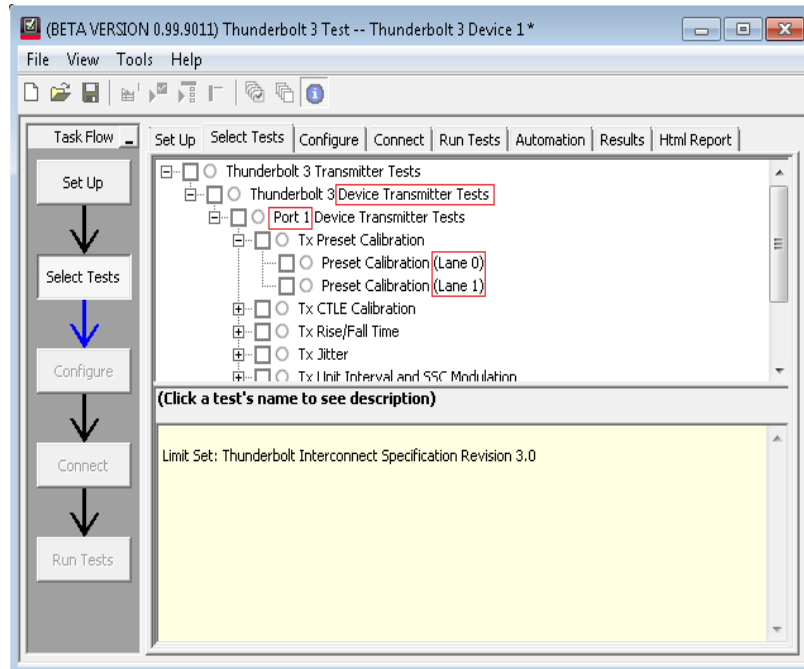
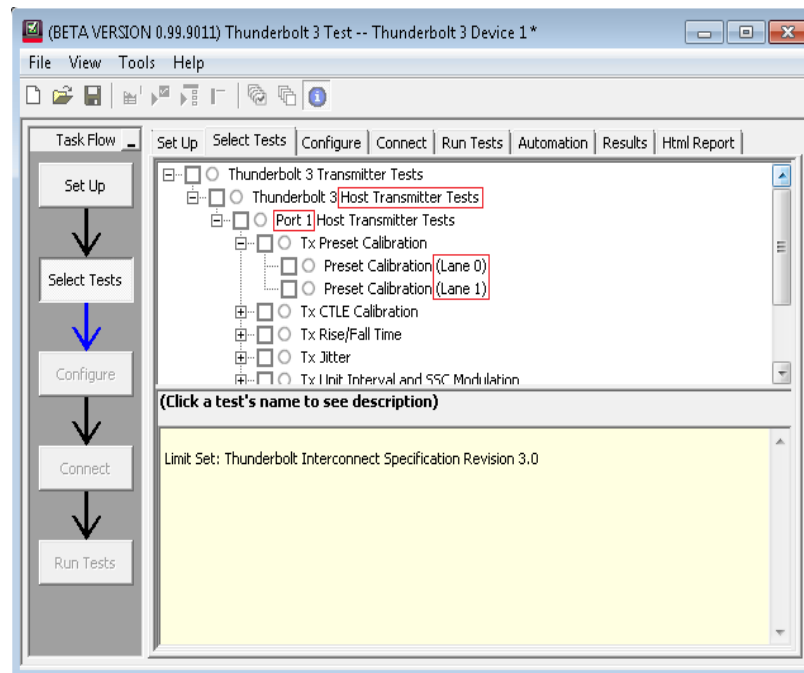

Figure 21 Select Transmitter Tests for DUT Type “Device” on 1-Port, 2-Lanes
Figure 22 Select Transmitter Tests for DUT Type “Host” on 1-Port, 2-Lanes
- Based on your choices under the **Set Up** tab, the **Select Tests** tab displays the associated tests. For example, Figure 21 shows the compliance tests for DUT Type “Device” with 1-Port, 2-Lane system and Figure 22 shows the compliance tests for DUT Type “Host” with 1-Port, 2-Lane system. Select the tests that you want to run using the Thunderbolt Electrical Compliance Test Application. Refer to the *Keysight N6470A Thunderbolt Electrical Compliance Test Application Online Help* to know more about how to select tests.